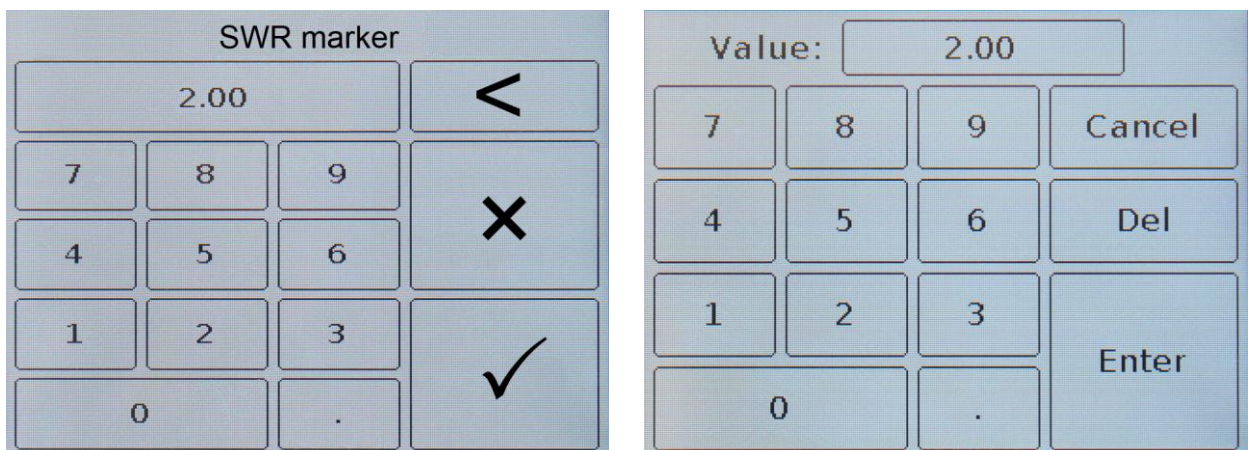

Figure 9.21 – Entering the numerical value of the displayed SWR limit line
9.8.4. To change the display value of the level of the VSWR limit line, click on the numerical value **Value**, and in the appeared submenu (Figure 9.21), enter a numeric value in the range from 1.01 to 9.00.
9.8.5. Enter the numerical value of the coefficient and press ✓ or **Enter**. To delete erroneous or previously entered values, press × or **Del**. To refuse to enter a value, click < or **Cancel**. *In our example, in figure 9.21, we enter the numerical value of the displayed VSWR limit line of the value on the charts.*